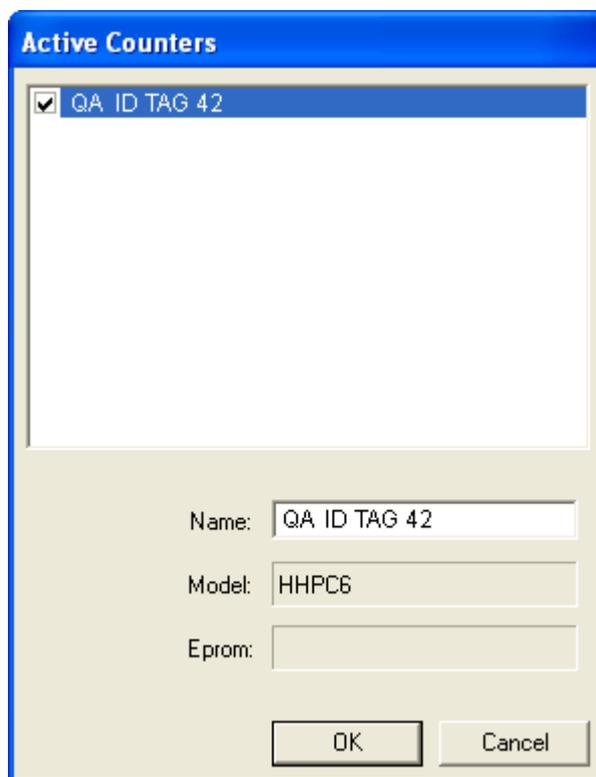

Figure 12 Active Counters screen
1. From the PortAll main screen, click the **EDIT HARDWARE** icon. The Active Counters screen opens (Figure 12).